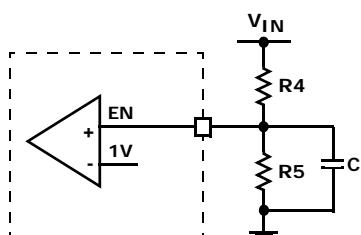

FIGURE 38. EXTERNAL RESISTOR DIVIDER
When the input voltage is below the undervoltage lock-out (UVLO) threshold, the regulator is disabled. To adjust the voltage level of power on and UVLO, use a resistive divider across EN. The input voltage programming resistor  $R_4$  will depend on the bottom resistor  $R_5$ , as referred to in Figure 38. The value of  $R_5$  is typically between 10k $\Omega$  and 100k $\Omega$ .
The enable (EN) input allows the user to control the turning on or off the regulator for purposes such as power-up sequencing. When the regulator is enabled, there is typically a 600 $\mu$ s delay for waking up the bandgap reference and then the soft-start-up begins. It is recommended that the EN voltage should be kept logic low (less than 400mV), until  $V_{IN}$  reaches 2.5V. Refer to Figures 38 and 39 for suggested circuit implementation with  $V_{IN}$  slew rate.